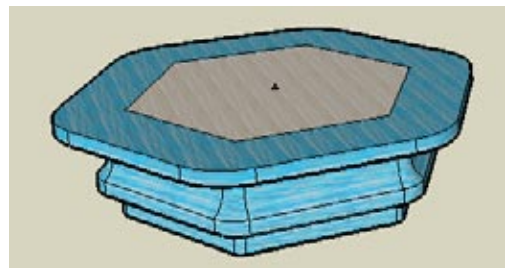

Figure 4-32
13. For the final cleanup, select all six groups, right-click on one of them, and choose Explode. Then you can erase the extra edges on the top and bottom of the table (Figure 4-32).